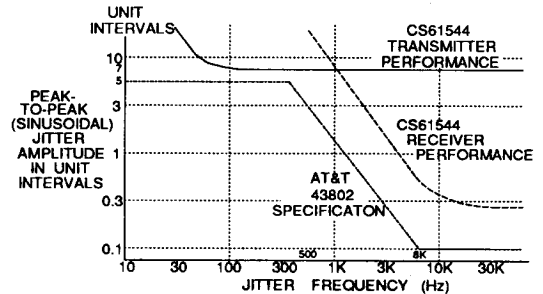

Figure 7 - Typical Input Jitter Tolerance of Transmitter and Receiver
9. For CERDIP ICs, assumes IC is operated within -70° to +70° C of reset temperature. For Plastic ICs, assumes is operated within -25° to +40° C of reset temperature (meets Bellcore central office specification: TR-EOP-000063 NEBS). For all packages, assumes IC is operated within 0.1 V of reset V₊. Input data pattern is quasi-random: (2↑20) - 1 with 1-in-15. Between 500 Hz and 8 kHz the jitter tolerance will be better than the AT&T 43802 line shown in Figure 7.